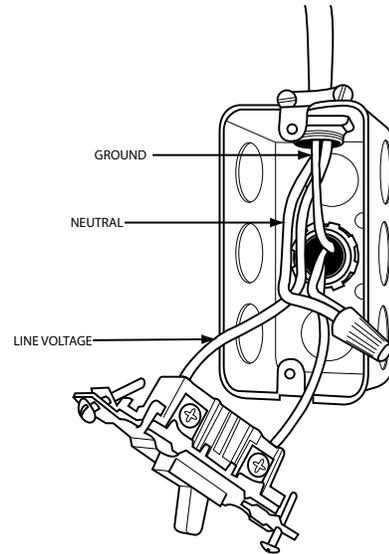

Fig. 36 – External Electrical Box
5. Fasten the external electrical box to the furnace casing using two (2) sheet metal screws.
11. Connect field power and neutral leads to furnace power leads inside the external electrical box as shown in Fig. 36.
1. Drill two (2) 1/8-in. (3 mm) pilot holes through the dimples in the furnace casing near the 7/8-in. knockout or plug on the side of the casing. Do not remove the knockout or plug in the side of the casing.
- Connect field power and neutral leads to furnace power leads inside the external electrical box as shown in Fig. 36.